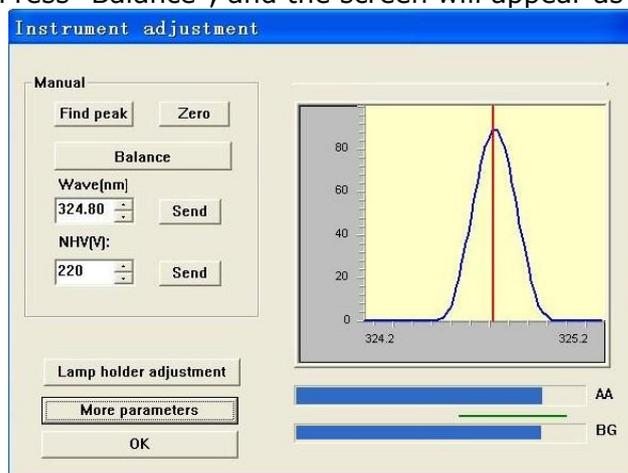

Figure 6-6
8. Press "Balance", and the screen will appear as shown in Figure 6-6.